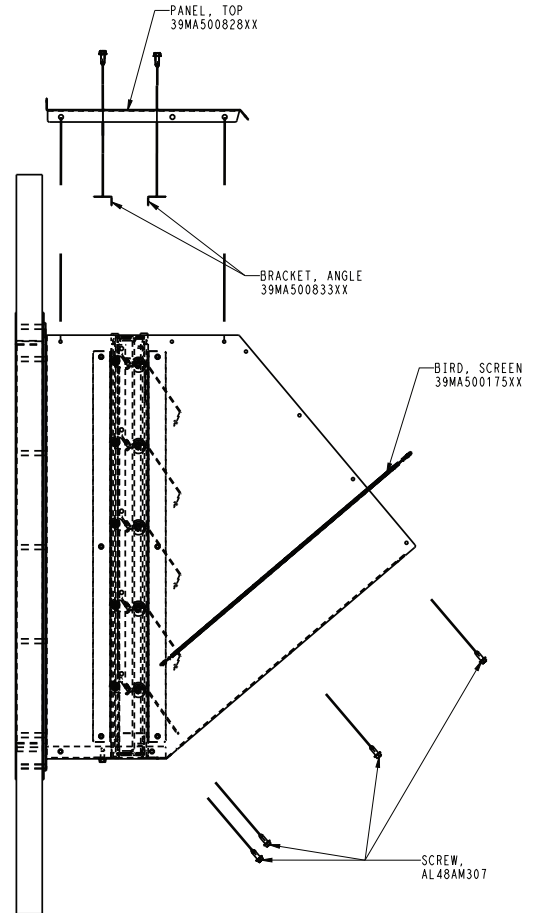

Fig. 76 — Attaching Bird Screen and Top Panel
13. Attach bird screen to the inside of the hood using the 1/4 in.-14 x 5/8 in. long sheet metal screws (without neoprene washer.) Also, attach brackets to top panel, then attach top panel to power exhaust assembly. See Fig. 76.